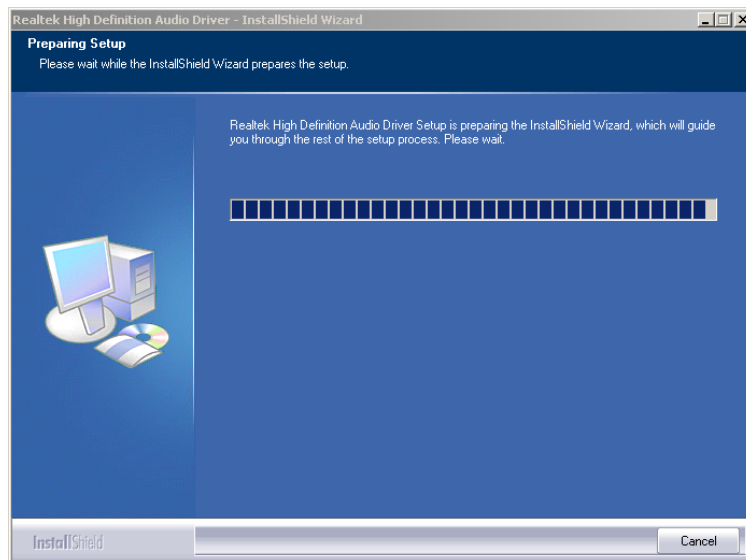

Figure 6-19: Preparing Setup Screen
Step 5: The **InstallShield Wizard** is prepared to guide the user through the rest of the process (**Figure 6-19**).